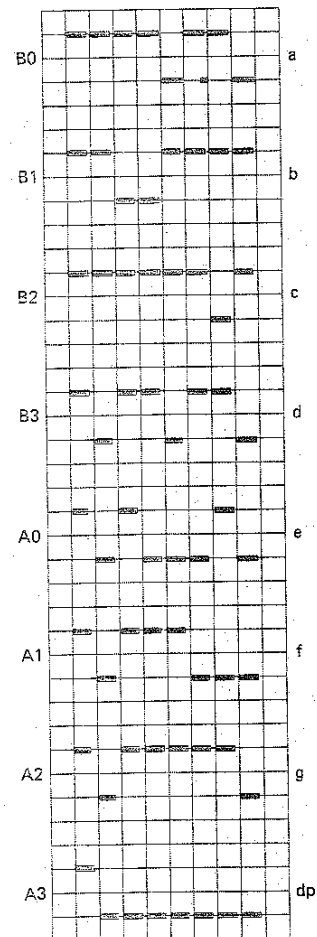

FIGURE 26-3.
7. See Figure 26-3. The low blanking codes are present between the actual seven-segment codes. The reason the lows on the seven-segment codes appear larger than the highs is that the low blanking codes on each side of them look like part of the segment code.